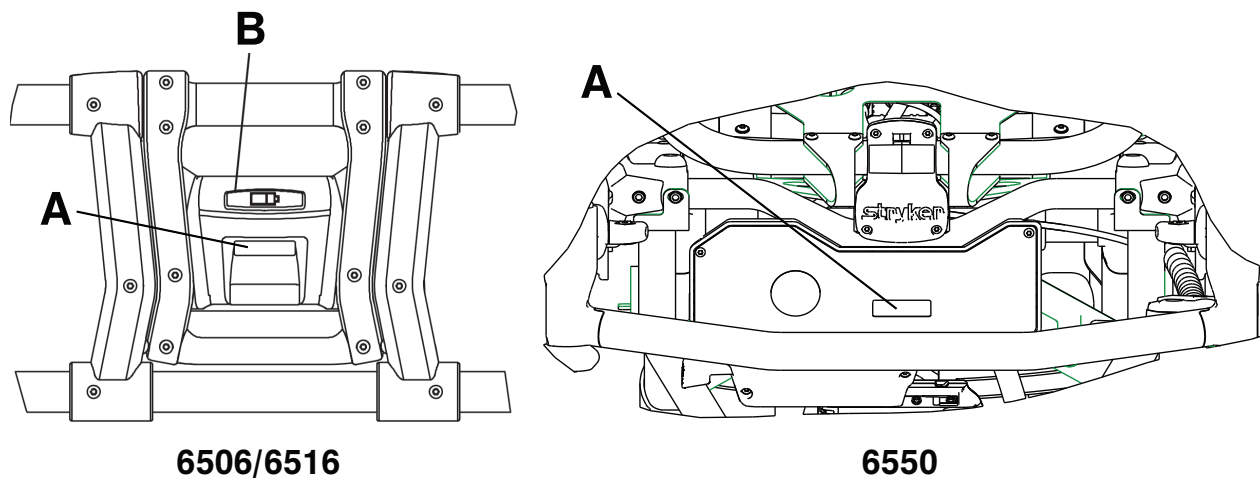

Figure 13 – Checking the hour meter (A), error display (A), and battery status (B)
Use the hour meter (A) (Figure 13) to determine the frequency of preventive maintenance. Use the error display (A) for troubleshooting. The error display overrides the hour meter display when an error occurs.